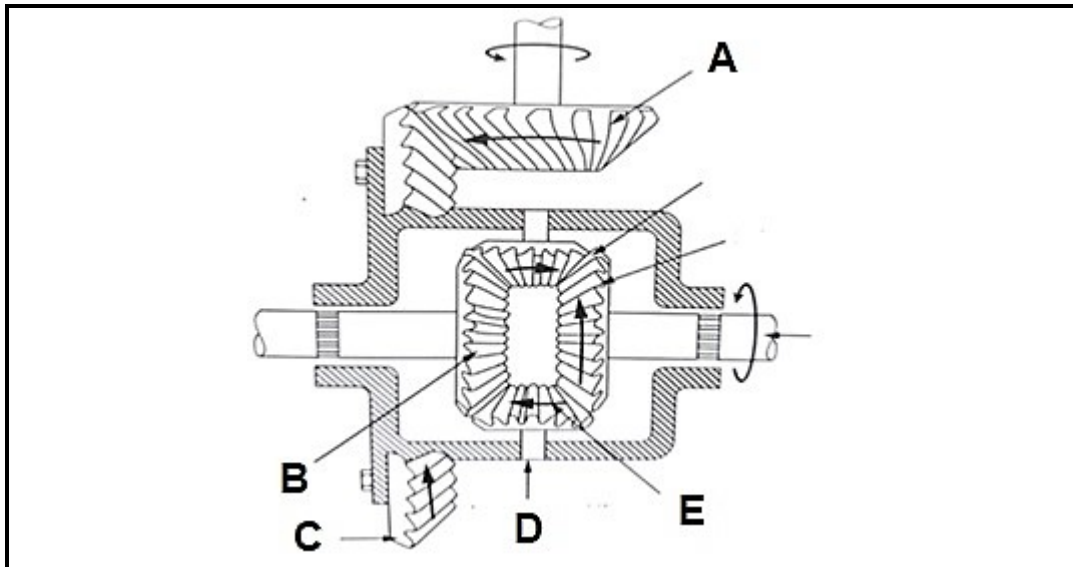

FIGURE 7.1
7.1 FIGURE 7.1 below shows part of a vehicle transmission system. Answer the questions that follow.
- 7.1.1 Identify the part of a vehicle transmission system in FIGURE 7.1 above. (1)